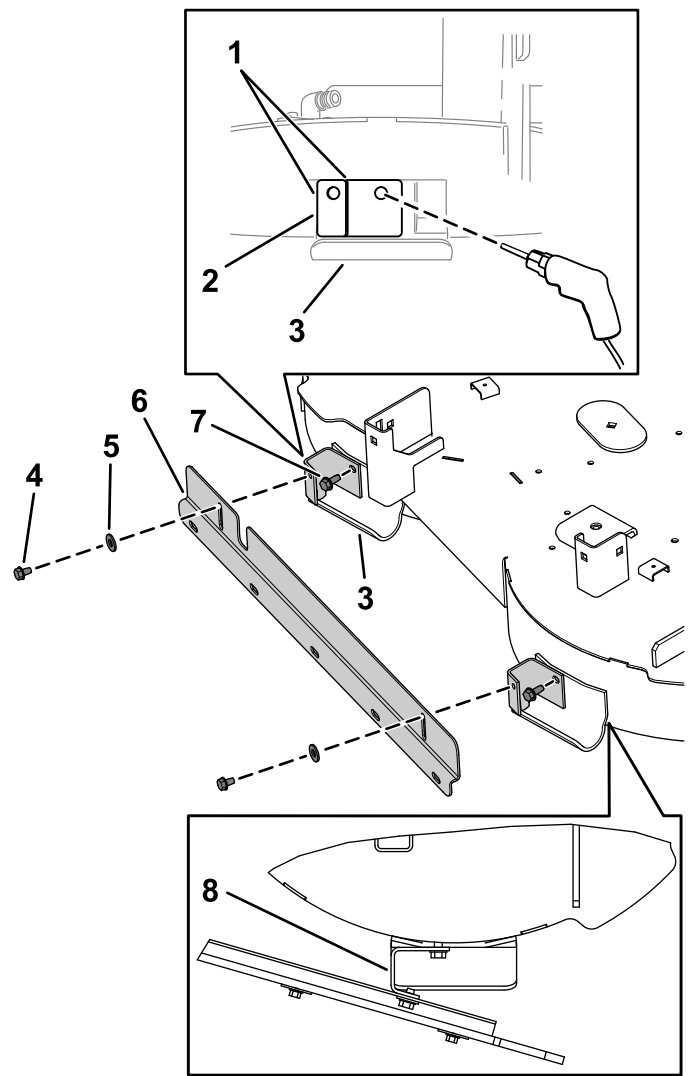

Figure 1
- A. Locate the right skid on the rear of the mower deck (Figure 1).
Align the left edge of the mounting bracket with the left edge of the skid and the top edge of the mounting bracket with the top edge of the right skid (Figure 1).
- C. Mark the outline of the mounting-bracket hole on the skid (Figure 1).
- E. Drill a hole (9/32 inch) in the right skid at the center-punched location (Figure 1).
- G. Secure the bracket using a washer-head screw (5/16 x 3/4 inch, self-threading) as shown in Figure 1.
- A. Locate the left skid on the rear of the mower deck (Figure 1).
- B. Position the longer leg of the mounting bracket for the striping kit against the left skid. Align the left edge of the mounting bracket with the left edge of skid and the top edge of the mounting bracket with the top edge of the left skid (Figure 1).
1/2 inch, self-threading) and 2 flat washers (5/16 inch) as shown in Figure 1.
1. Align the striping bracket so that the mounting flange is up and facing toward the mower deck (the wiper flange is down and away from the deck) as shown in Figure 1.
2. Align the top of the slot in the mounting flange of the striping bracket with the hole in the short leg of each mounting bracket installed on the skids (Figure 1).